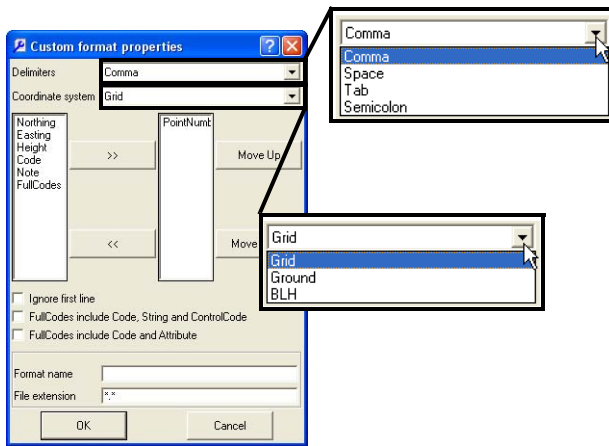

Figure 3-6. Select Delimiters and Coordinate System
6. On the *Custom format properties* dialog box, select the *Delimiters* and *Coordinate system* from the drop-down lists (Figure 3-6 on page 3-9).